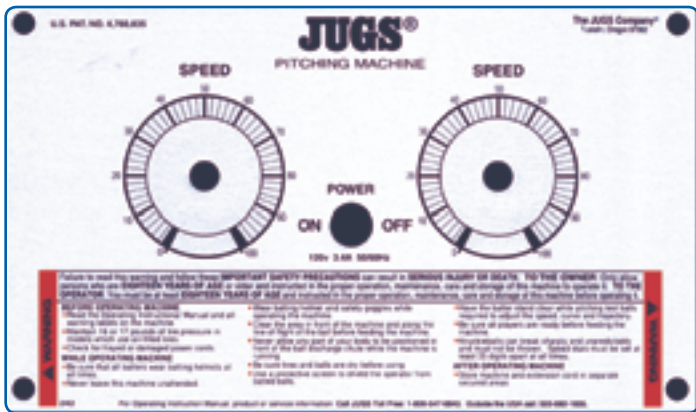

Figure 5. Control Panel
1. Place toggle switch on the Control Panel (Figure 5) in the ON position. Gradually turn right-hand speed dial to full clockwise position. The right wheel will be turning rapidly clockwise and the left wheel will be turning slowly counter-clockwise.